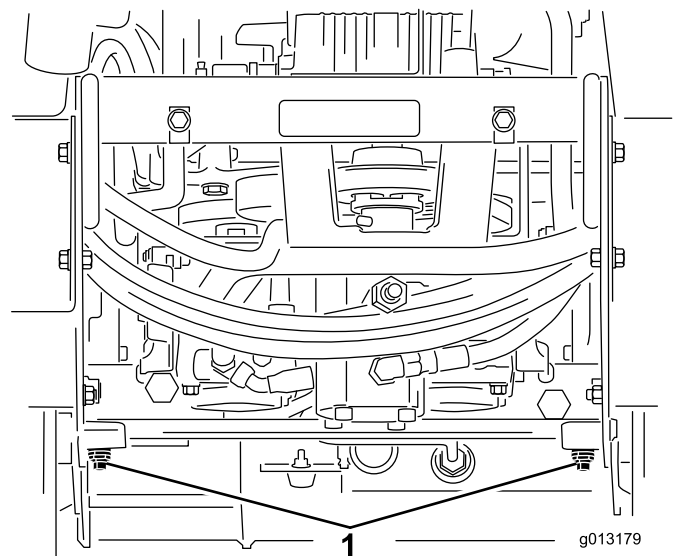

Figure 20
4. Using a wrench, turn the tow valves on the hydraulic pumps twice counter-clockwise (Figure 20).